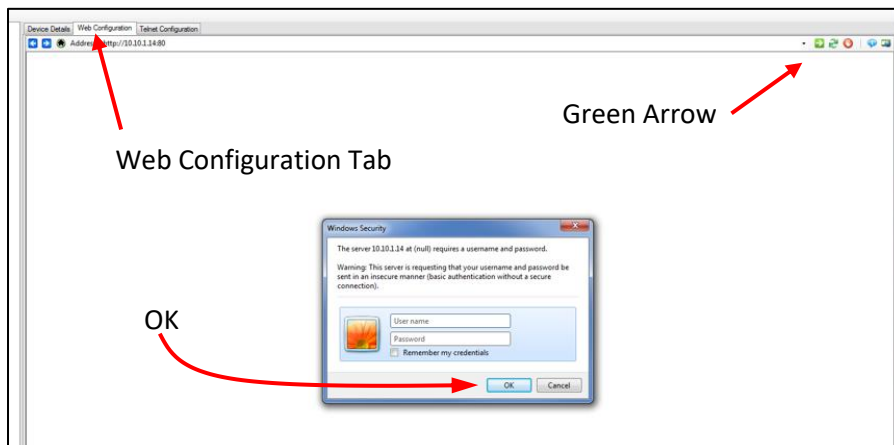

Figure 4-7 Web Configuration Tab
- Select OK without entering a username or password. See Figure 4-7